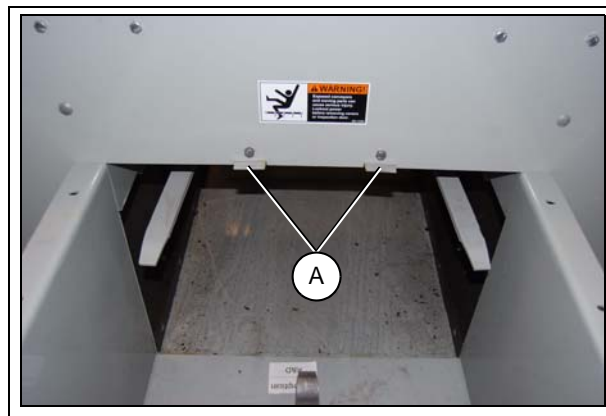

Figure 6K
4. Install the intermediate covers on both sides of the bypass inlet so that the covers rest on the tabs shown in Figure 6K.